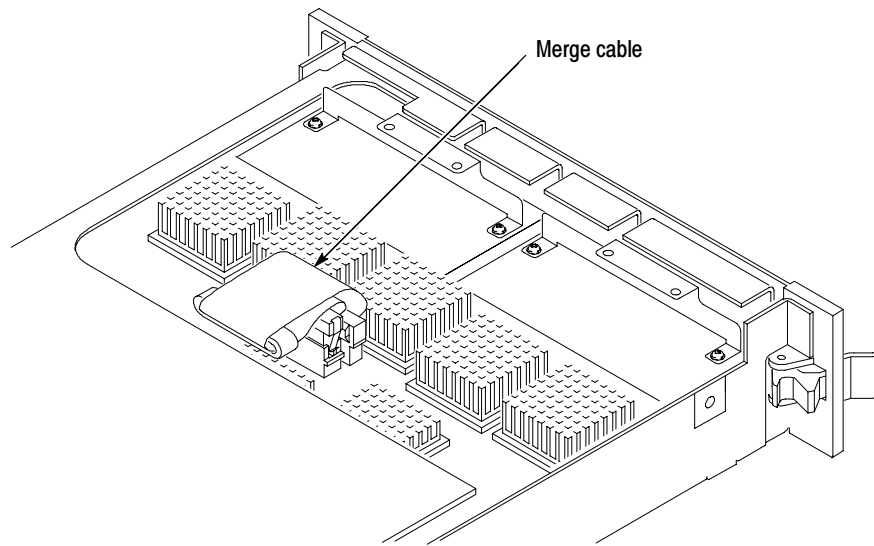

**Figure E-9: Positioning the merge cable before installing the cover**
5. Position the merge cable as shown in Figure E-9.